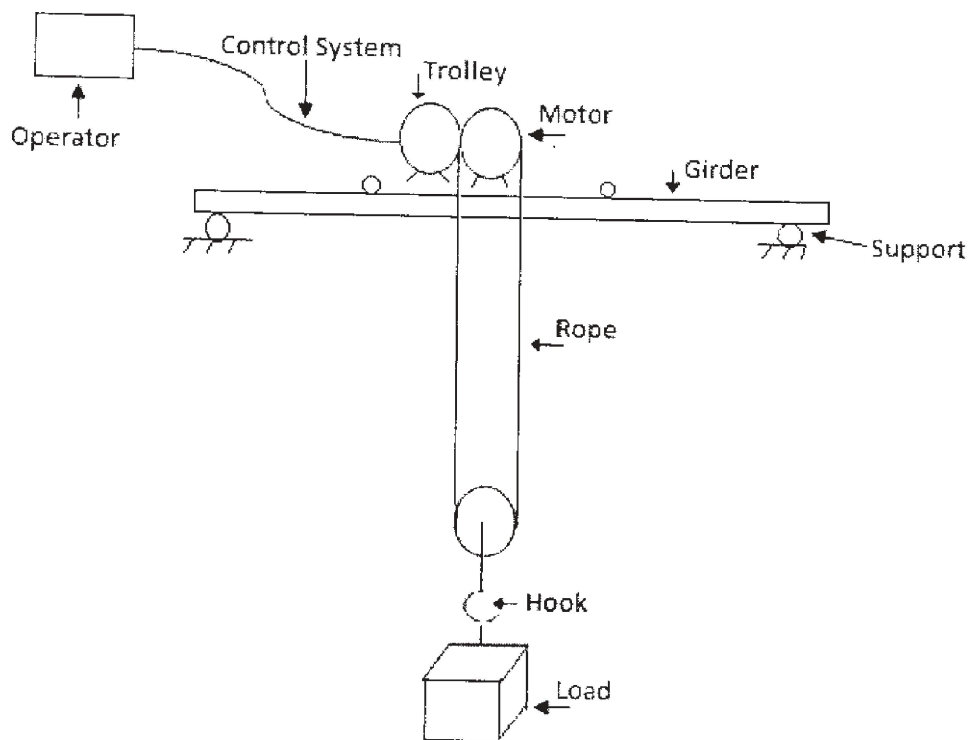

Fig. 3
b) An electric travelling crane is mounted as shown in the figure 3. The operator gives the signal which is transmitted to the motor. The motor is located in the trolley which lifts load through the rope and hook. Construct a fault tree for the condition “load is not lifted” when operator gives signal. Assuming the probability of failure for each element as 0.08, find the reliability of the system. **[10]**